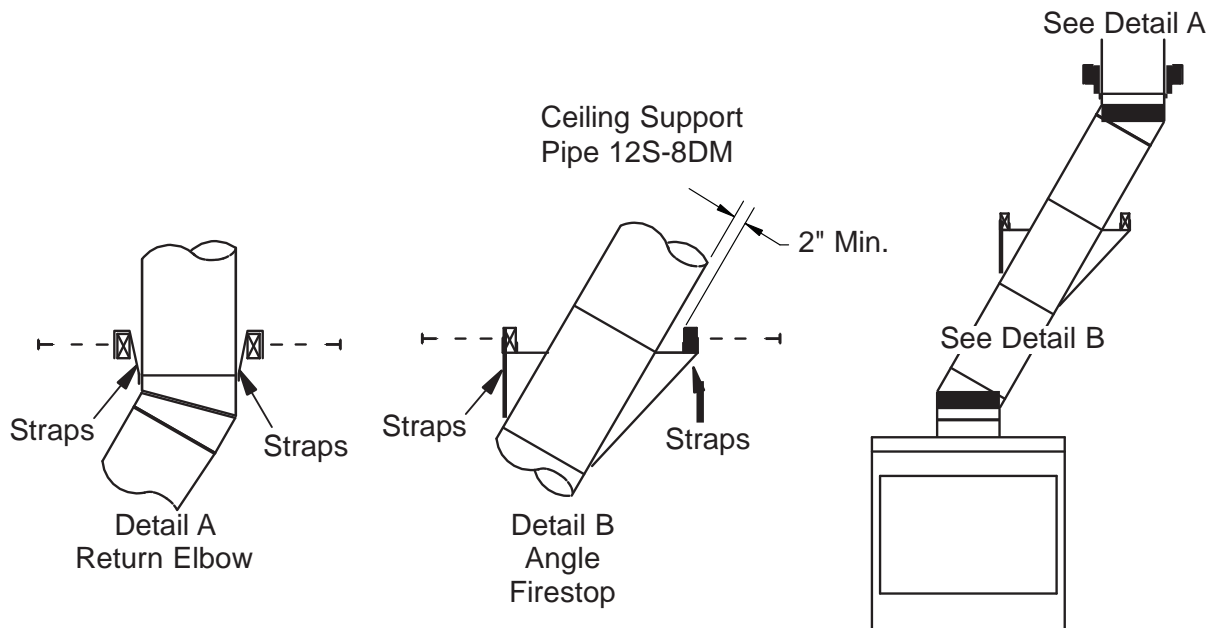

Figure 8 - Ceiling Support Pipe 12S-8DM
2. Chimney weight above offset rests on return elbow. Straps must be securely nailed to rafters or joists (see Figure 8, details A and B).